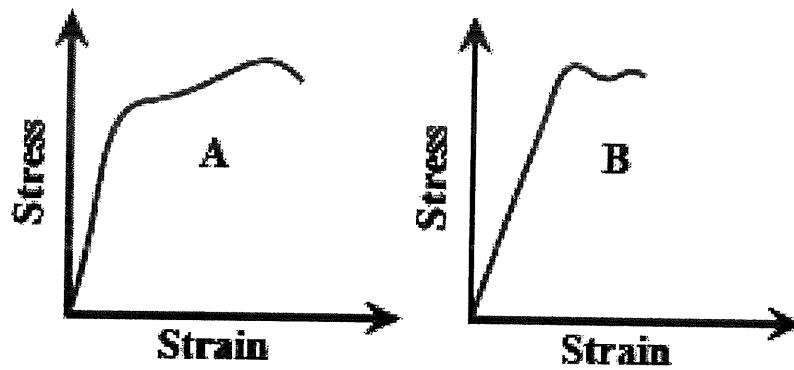

Figure 4
- e) The stress-strain graphs for materials A and B are shown in Figure 4. The graphs are drawn to the same scale. Differentiate which one the materials has the greater Young's modulus and the stronger material.